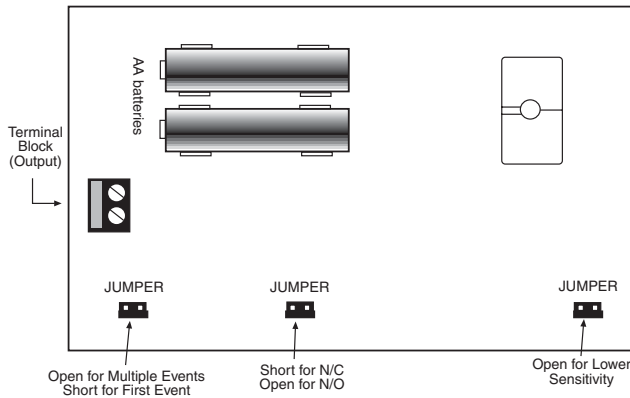

Figure 5: Circuit board
6. Run 2 wires through the cable knockout hole and connect them to the small terminal block (Output) on the side of the on the passive infra-red circuit board opposite the reflector unit. (See Figure 5.)